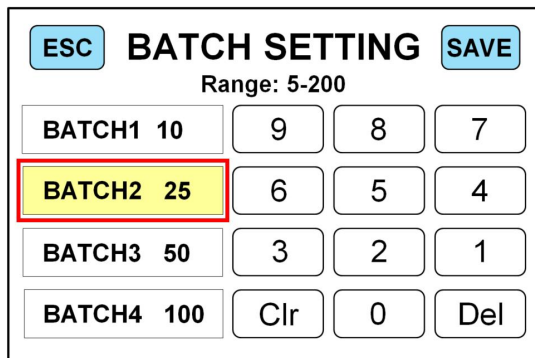

Figure 29
5) Touch "BATCH 25" and the key will turn yellow, as shown in Figure 29 below: